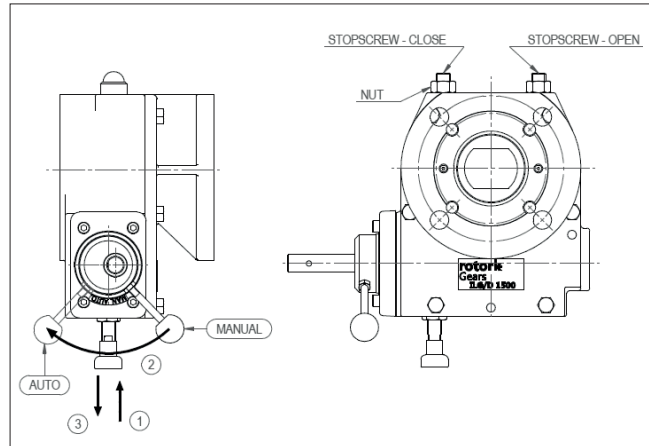

Figure 23.
2. Put the gearbox in manual-mode by turning the handle counter clockwise as shown in **Figure 23** below. First pull the knob (1) then turn the selector (2) and then release the knob (3) and make sure it is engaged.
3. Turn the handwheel clockwise to put the gearbox/valve in the fully closed position. When the fully closed position cannot be achieved, loosen the stop screw-close on the gearbox (**Figure 23**) and check the travel stop adjustment of the actuator. Once fully open is achieved, hand tighten the stop screw and secure with the lock nut.
4. Turn the handwheel counter clockwise to put the gearbox/valve in the fully opened position. When the fully open position cannot be achieved, loosen the stop screw-open on the gearbox (**Figure 23**) and check the travel stop adjustment of the actuator. Once fully open is achieved, hand tighten the stop screw and secure with the lock nut.
5. Pull the knob outwards (3) then turn the selector (2) toward auto until the knob falls back into its locked position. The gearbox is now ready for operation.
2. To operate the valve with the handwheel, the gearbox must be put into manual mode. Refer to **Figure 23**:
- b. Pull the knob outwards (3) and hold the knob in this position.
- c. Turn the handle counter clockwise (2) toward “AUTO” and release the knob. Continue turning the handle until the knob falls back into locking position (1).
- a. Pull the knob outwards (3) and hold the knob in this position.